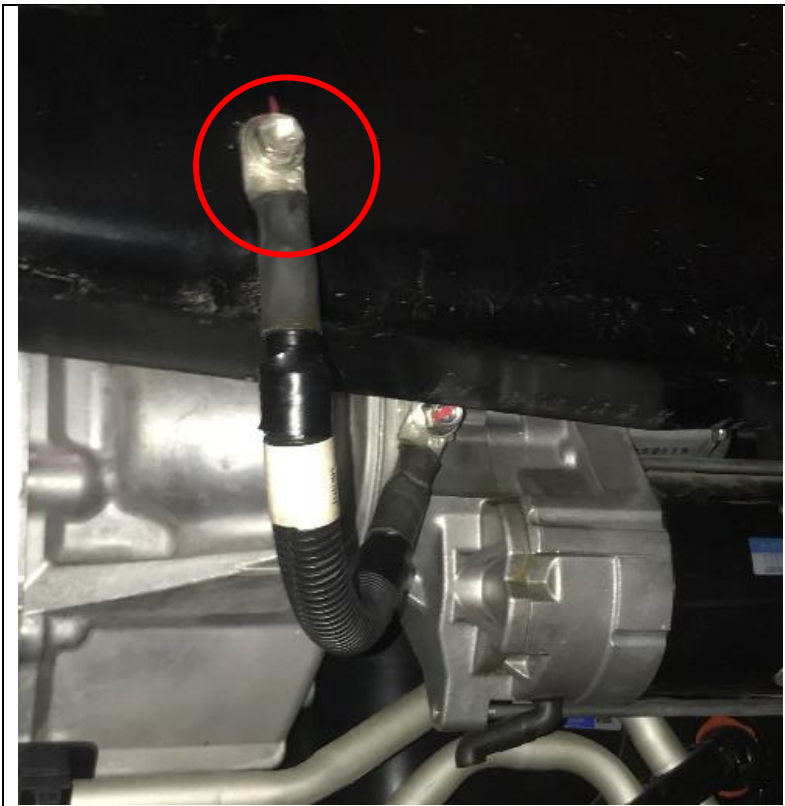

Figure 2
3. Remove the bolt from the frame end of the ground cable. See Figure 2.